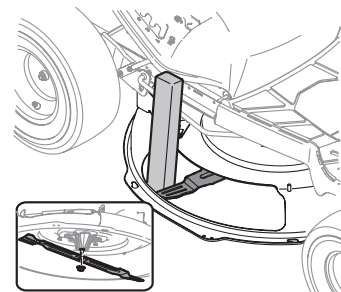

Figure 22
2. Using a block of wood or 2 x 4, insert it into the deck opening and rotate the blade around until it wedges the wood between the deck opening and the cutting blade, as shown in Figure 22.